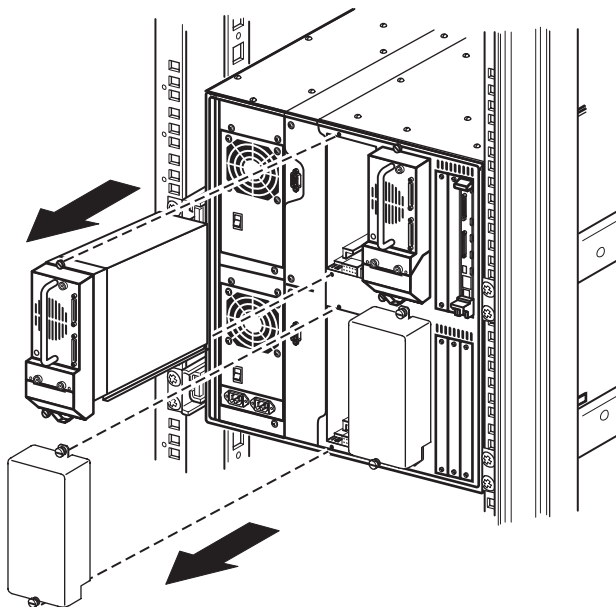

Figure 7 Accessing drive bay 1
2. Remove the blank panel or drive shoe assembly 1 from the bay adjacent to the PTM cover plate opening (see Figure 7).